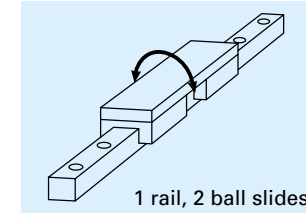

**Fig. II-2-4 Moment rigidity**
- 2) Moment rigidity: Three moment directions -- pitching, rolling, and yawing (Fig. II-2-4).